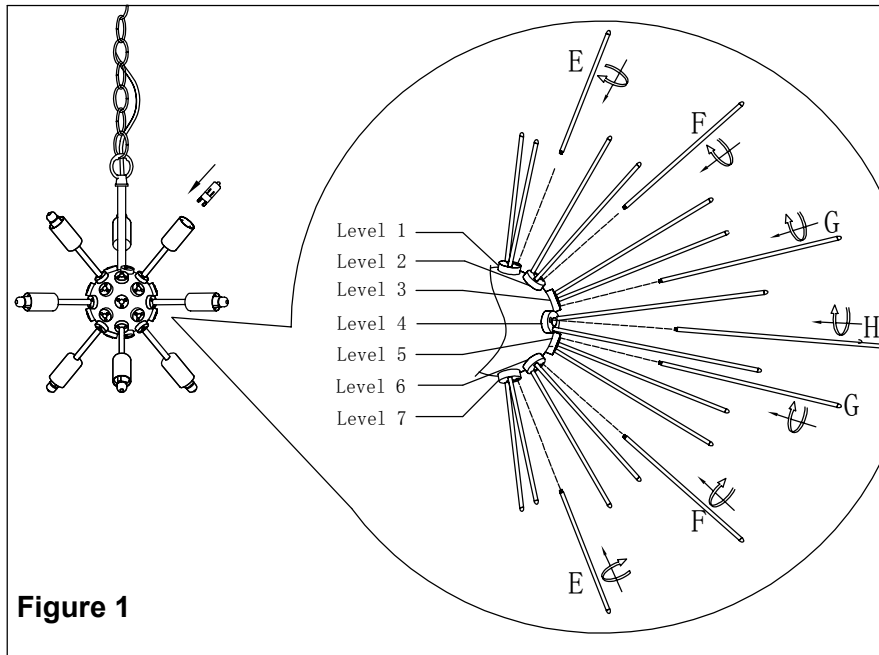

Figure 1
4. Assemble the decorative rods, as shown in Figure 1. Fit levels 1-4 prior to hanging.
6. Support your fitting and connect the house wiring to the terminal block (3) – see expanded wiring details below.
7. Secure the ceiling cup over the bracket by using the screws (4) removed in Point 5.
8. Fit decorative rods levels 5-7, per figure 1.